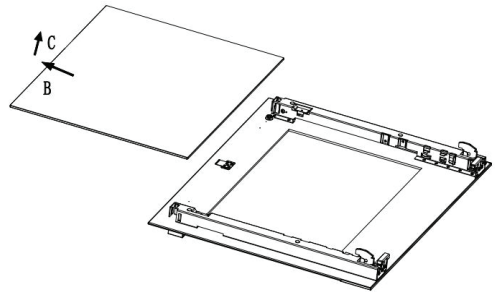

Fig.9
4. Take out middle glass. (Fig.9)